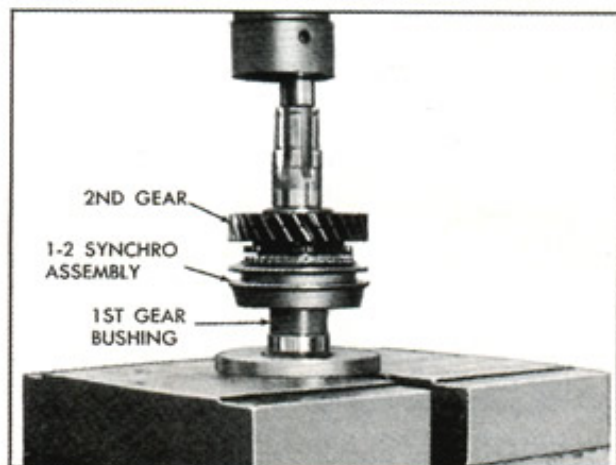

Fig. 18—Installing 2nd Gear, 1-2 Synchro and 1st Gear Sleeve
3. Position the 1st gear sleeve on the shaft and press the sleeve onto the mainshaft until the 2nd gear, clutch assembly and sleeve bottom against the shoulder of the mainshaft (Fig. 18).